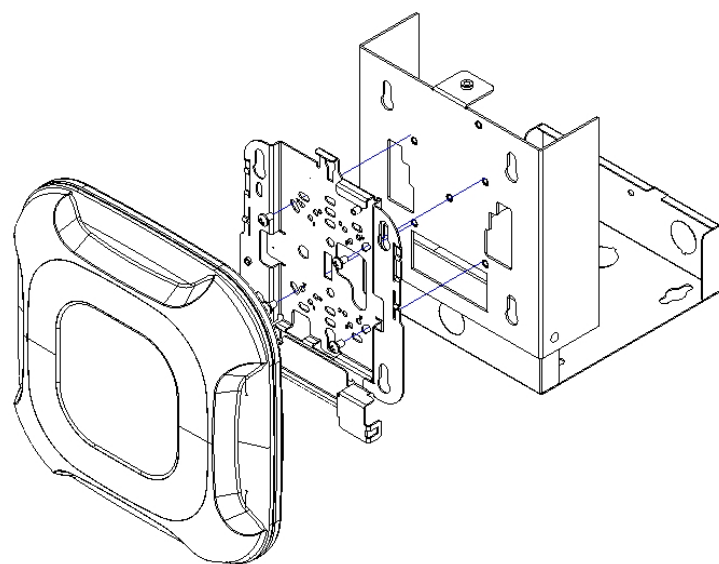

Figure 2 - Cisco/AIR-BRACKET-2 Installation
Step 2b (**CISCO INSTALLATION**) – Attach the AIR-BRACKET-2 to the mount cover using the four (4) #8-32 screws provided. The AIR-BRACKET-2 should be aligned with the *Oberon mount cover* so that the cable entry on the AIR-BRACKET-2 is positioned toward the cutout of the *Oberon mount cover* (Ref. Figure 2). Plug the data cable into the *Cisco access point*, and attach the *Cisco access point* to the AIR-BRACKET-2 (Ref. Figure 2).